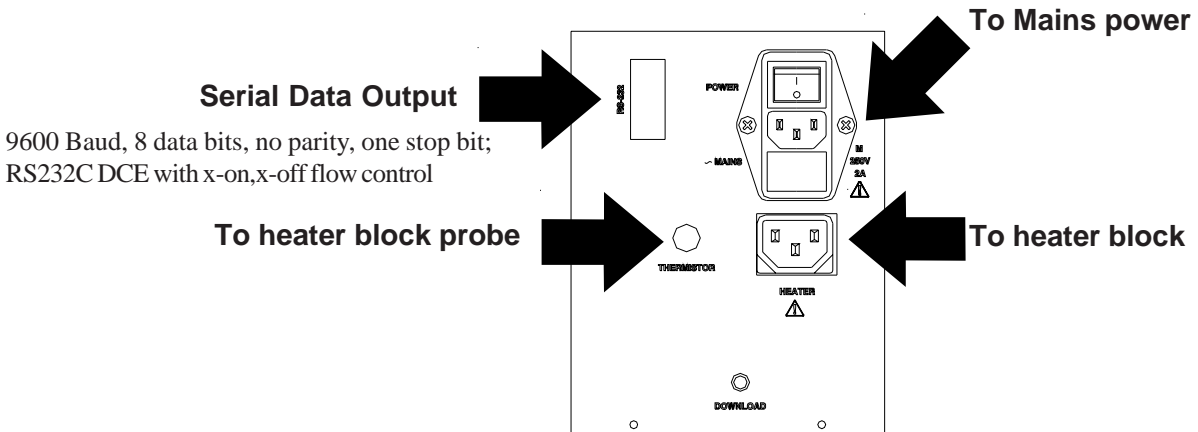

Figure 2: DPV rear panel with electrical/probe connections highlighted
2. Connect the IEC320 heater block power cord to the matching connector on the rear panel of the DPV (see *Figure 2*, next page).
3. Connect the Lemo[®] plug from the heater block temperature probe to the matching connector on the rear panel of the DPV (see *Figure 2*, next page). To insert the plug, line up the red dots on the plug and the connector and push the plug into place. If it is necessary to remove the Lemo[®] plug, pull it out by the knurled portion of the plug.